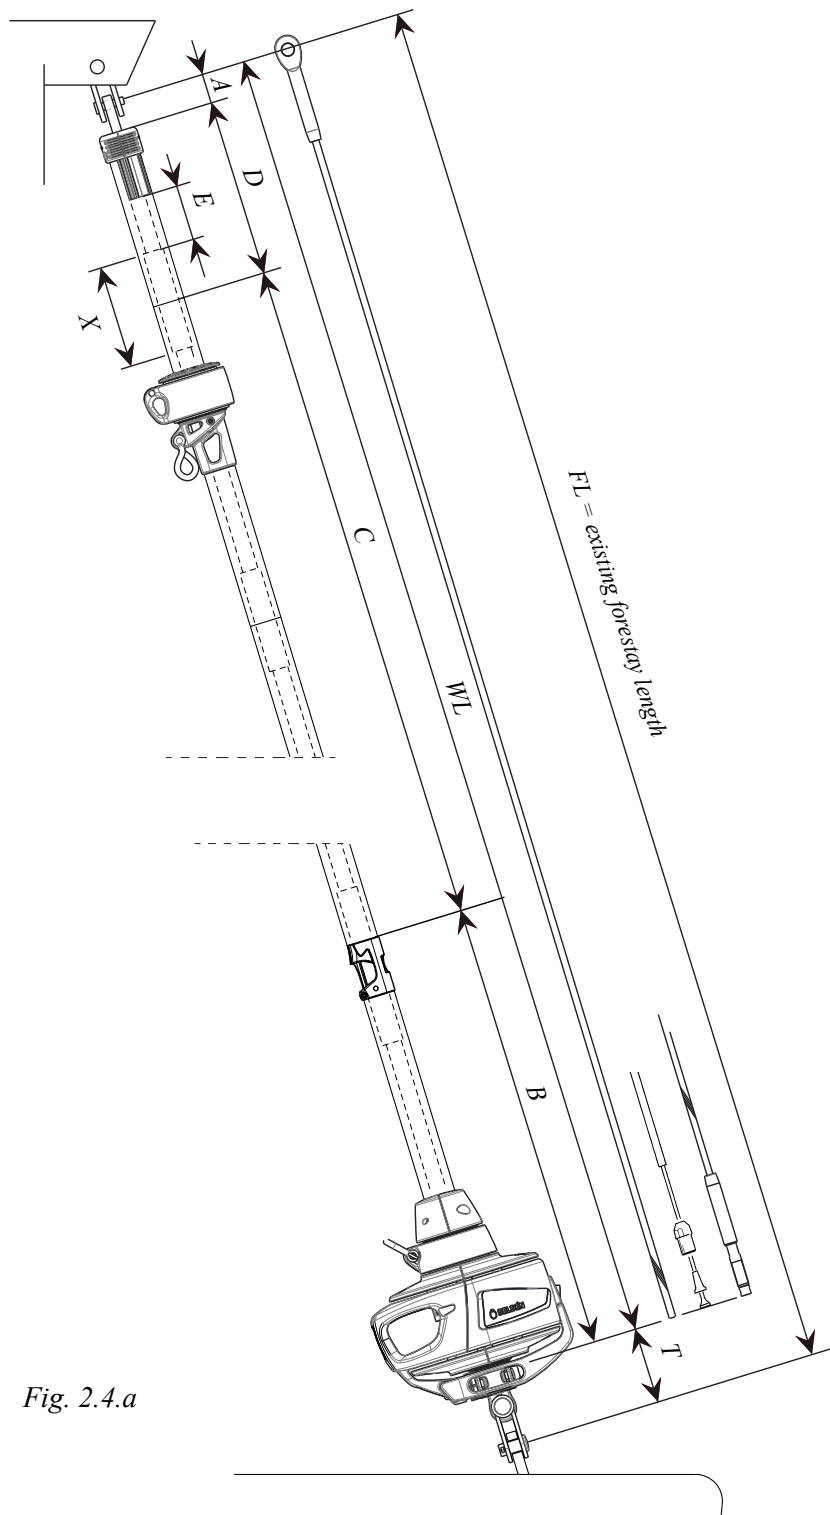

Fig. 2.4.a
If a stud-terminated stay is to be manufactured by a local rigger it is important to note that WL in this case equals the length of the finished stay, from eye to end of stud, as shown in fig. 2.4.a. WL is calculated in table 1.
| FL | Existing forestay length (FL), including rigging screw (See Fig. 2.4.a) | | | 16.243 | |
| WL | Cutting measurement. The new forestay wire is to be marked at this point. (For stays with swaged stud, WL equals the length of the finished stay as shown in fig 2.4.a and NOT the cutting length) | | = | = 16.068 | |